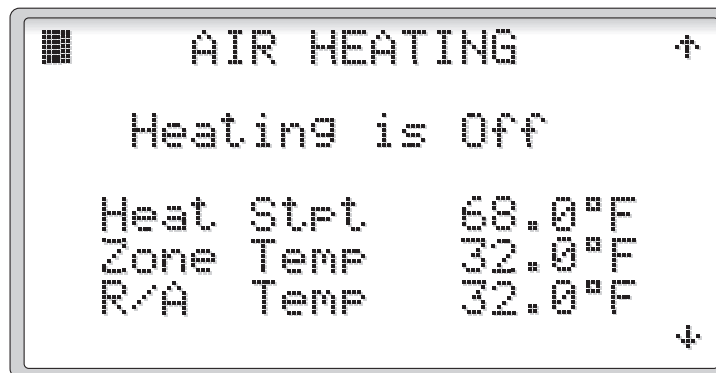

Figure 46
2.3.4.2.2 Tuning - Air Heating (Figure 46)
Pressing the **DOWN** key will now display the AIR HEATING screen (Figure 46). This screen shows the state of the air heat and the associated set points and temperatures. Press the **DOWN** key for the next Tuning screen.